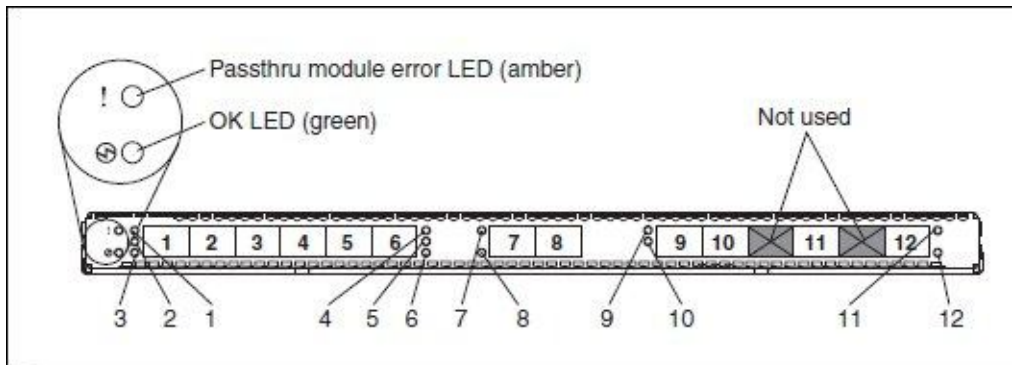

Figure 4. Front panel of the 10Gb Ethernet Pass-Thru Module for BladeCenter HT chassis
- Each external SFP+ port on the pass-thru module contains an link status LED - the port number associated with each LED is indicated in Figures 4 and 5.